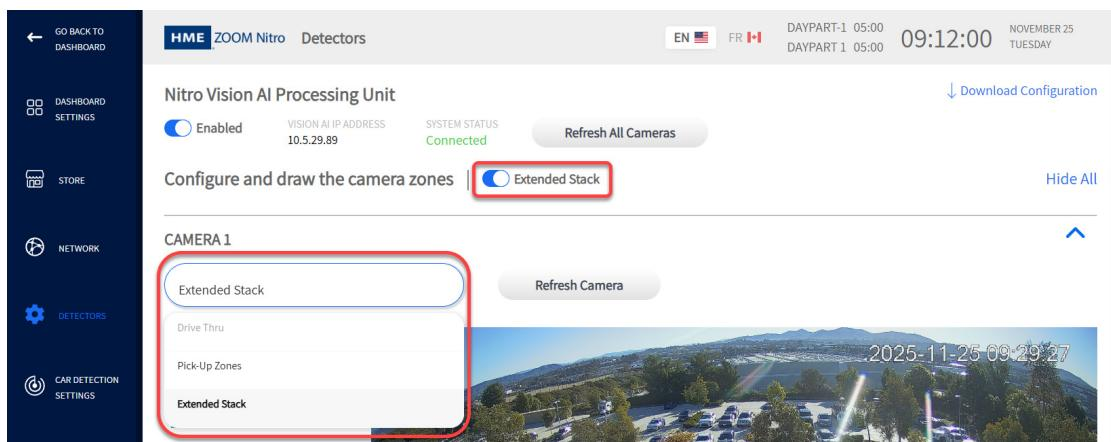

Fig. 32
16. Fig. 32 shows the CAMERA 1 drop-down list when the Extended Stack option is enabled (the Extended Stack option does not appear in the drop-down list if the toggle is disabled). While Extended Stack requires a dedicated camera it must be used in conjunction with another Drive-Thru camera (i.e., it does not function independently).